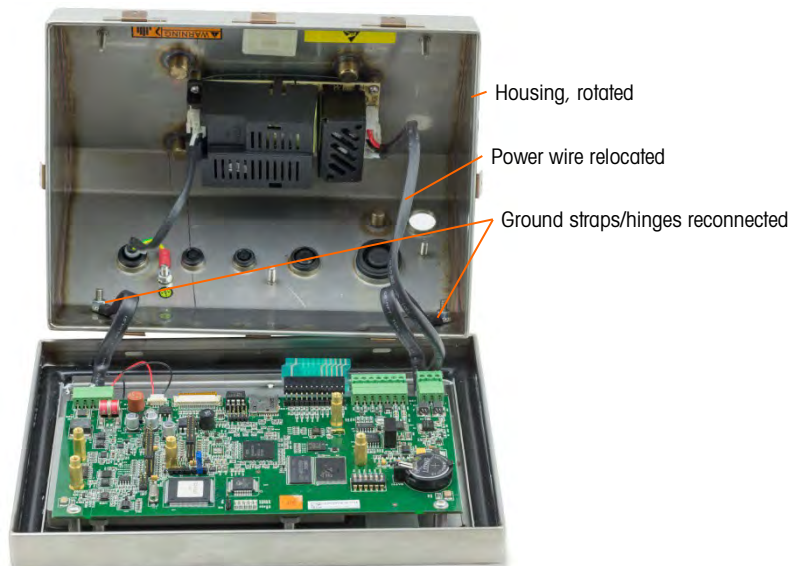

Figure 2-11: Housing Reversed
5. Carefully rotate the housing 180 degrees and use the nuts removed in step 4 to reattach the two grounding straps to the studs near the grip bushings (Figure 2-11). Tighten the two nuts.